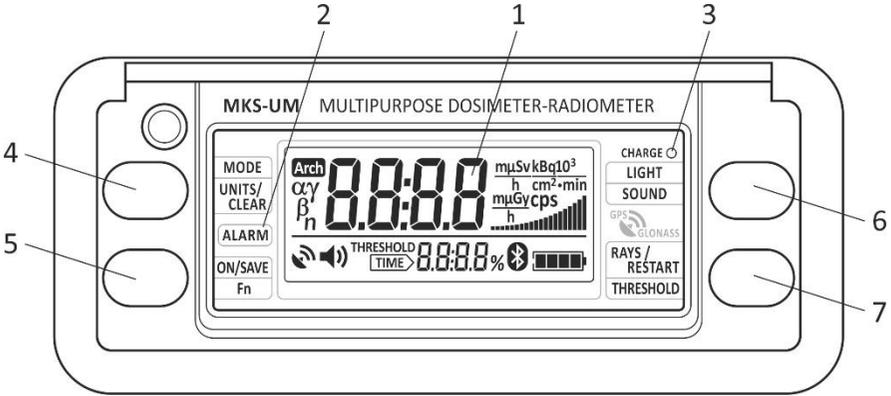

Figure 2.10 – Front panel of the control unit
2.3.3.1 The dosimeter is operated with the help of four buttons (4), (5), (6), (7) according to Figure 2.10.